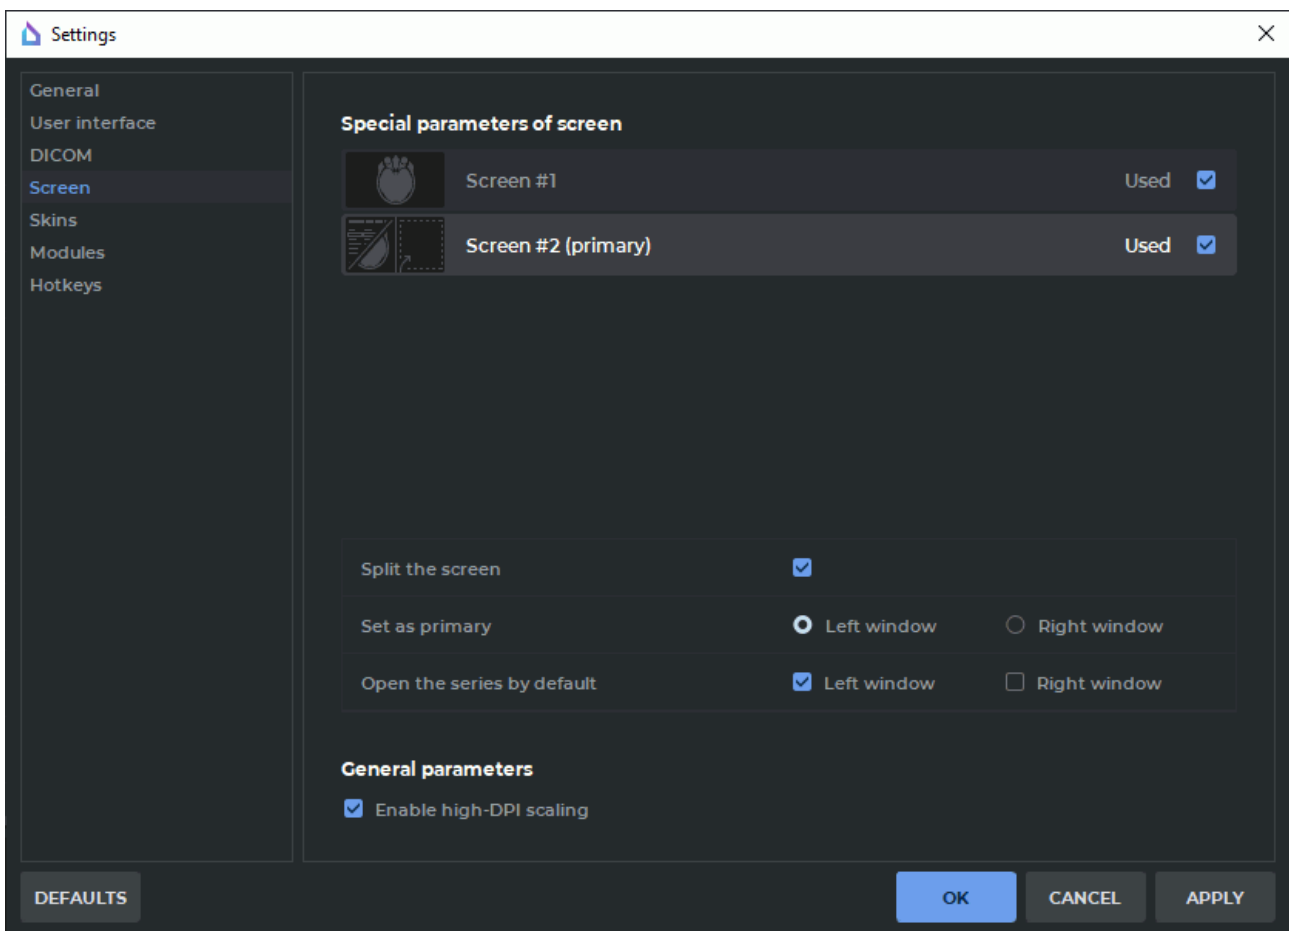

Figure 15.3: Special parameters of the screen
4. Check the **Split the screen** for the selected screen (see Fig. 15.3).